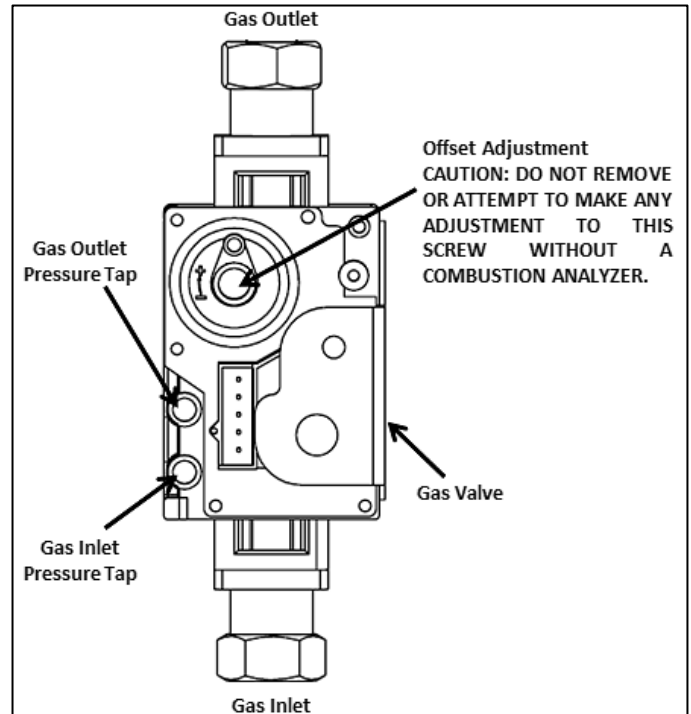

Figure 41 –Gas Valve Detail
NOTE: Refer to Figure 41 when adjusting gas pressure. Loosen the screw before checking the gas inlet pressure.
3. Loosen the gas inlet pressure tap screw three turns with a screwdriver. Connect the manometer to the inlet gas pressure port. See Figure 41.